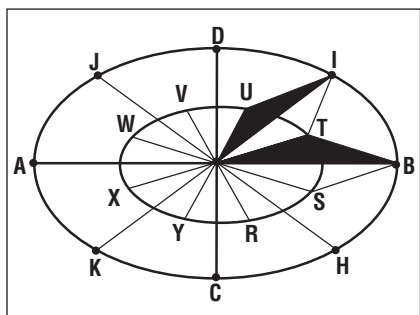

Fig. 5
5. Mark R as the midpoint between EC and EH. Mark S, T, U, V, W, X and Y in the same way and draw lines from each of them. Draw lines CR, RH, HS, SB, BT, TI, IV, UD, DV, VJ, JW, WA, AX, XK, KY and YC to complete drawing the star (Fig. 5).